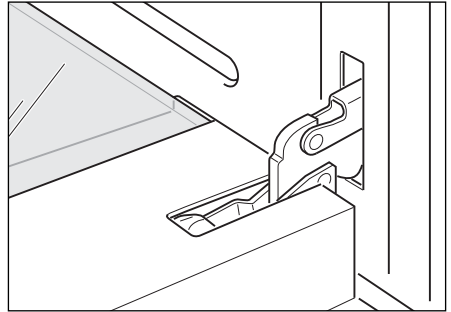

Fig.44a
- Fully open the oven door (Fig. 44a).
- 1 Make sure the door is locked open (see Figs 44a - 44c).